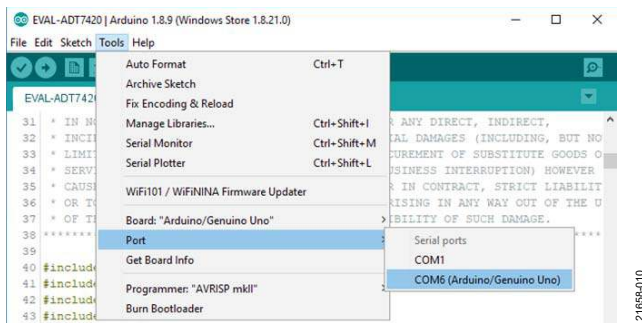
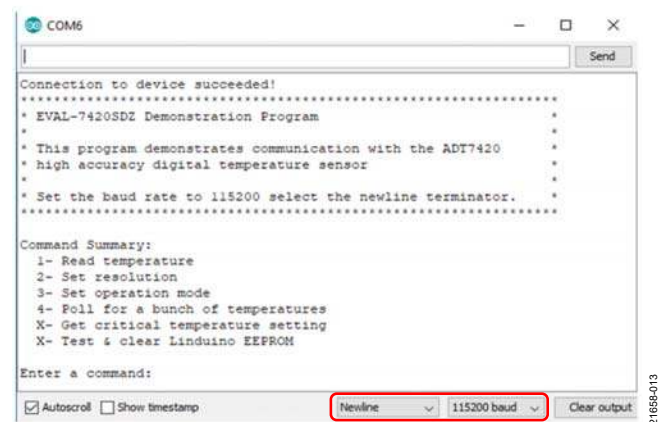

Figure 11. Arduino IDE Communications Port
Figure 14. Arduino IDE Serial Monitor
2. Plug the Arduino board to the PC via the USB cable. Select the board type and serial port by navigating to **Tools > Port** and select the serial device of the board as shown in Figure 11.
5. Open the serial monitor by navigating to **Tools > Serial Monitor** (see Figure 11 for the **Tools** dropdown list). Select **Newline** for the dropdown list circled in red in Figure 14 and set the baud rate to 115200. To use the serial monitor, enter the commands in Figure 14 in the text box at the top of the window and click **Send**.